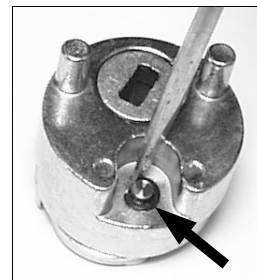

Fig. 2b: Remove retaining ring.
- 2b. **Remove** the retaining ring with a small tool such as screwdriver or small needle-nose pliers (see Fig. 2b).